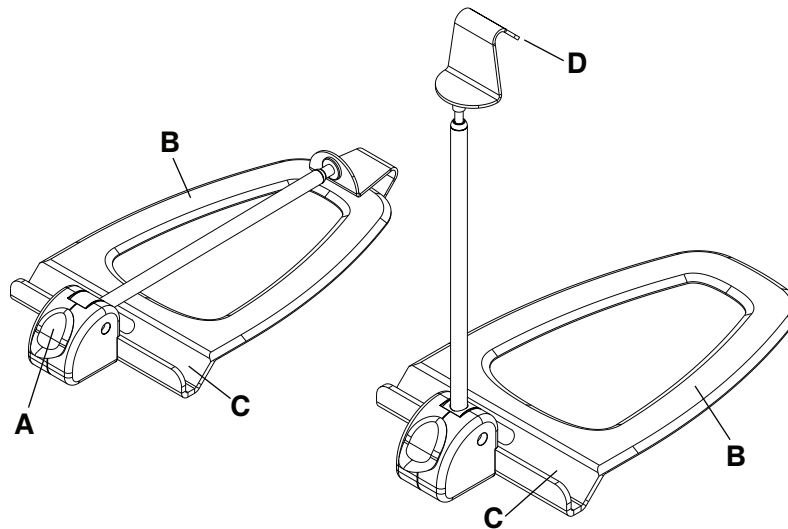

Figure 29 – Lateral X-ray cassette holder
2. Press down on the yellow release button (A) to open the lateral cassette holder (Figure 29).
3. Slide the flat base (B) between the mattress and the patient platform.
5. Place the X-ray cassette in the cassette canal (C).
6. Pull up on the cassette hook (D) to adjust the height of the arm to fit over the X-ray cassette to hold the cassette in place.